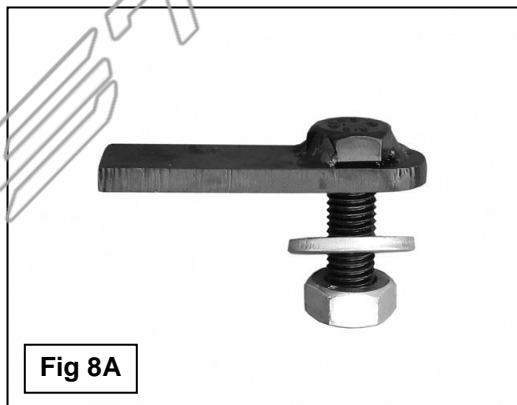
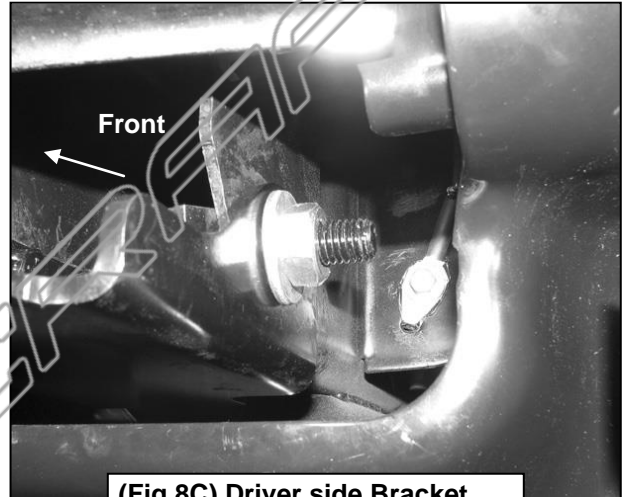

**Fig 7A**
**Fig 8A**
- d. Select (1) 12mm Double Bolt Plate, **(Figure 7A)**. Insert the Bolt Plate into the end of the frame channel, through the (2) holes in the side of the frame and out through the Bracket. Secure the Double Bolt Plate to the Bracket with (2) 12mm Flat Washers, (2) 12mm Lock Washers and (2) 12mm Hex Nuts, **(Figure 7B)**. Snug but do not fully tighten hardware at this time. Repeat this **Step** to install the 12mm x 35mm Single Bolt Plate, **(Figure 8A)**, into the remaining hole in the other side of the frame channel and Bracket, **(Figures 8B & 8C)**.